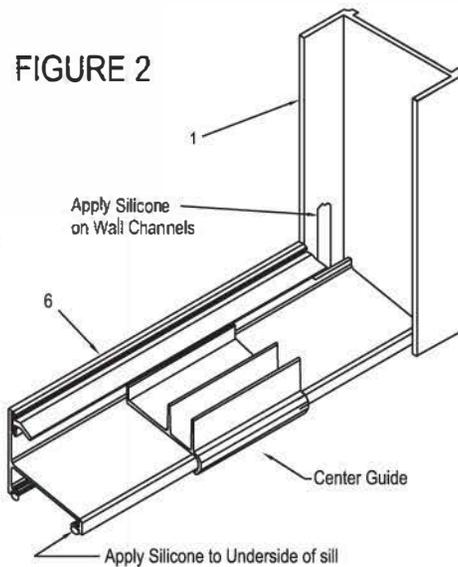

FIGURE 2
3. Cut Sill (6) to fit opening between jamba. Run a bead of silicone full length to the underside of sill (See Figure 2) and apply silicone to inside of jamb where jamb meets tub. On inside of jamb, run a 1/4" bead of silicone 1 1/4" up the outside leg of each wall jamb (See Figure 2). Set curb in place, then press firmly to rim of tub. Wipe off any excess silicone before curing. Use tape to hold in place until silicone sets.
4. Cut Header (8) 1/32" to 1/16" less than opening width and set in place.
6. Place center guide (7) to center position on sill (See Figure 2). Make sure the center guide is hooked into the slot position on the sill, then snap center guide to sill.
8. Set handle vinyl channel (14) in place over edges of outside glass panel (17) with bottom of vinyl in line with bottom of bumper. Tap towel bar brackets (9 & 10) in place. Bracket with pull should be to